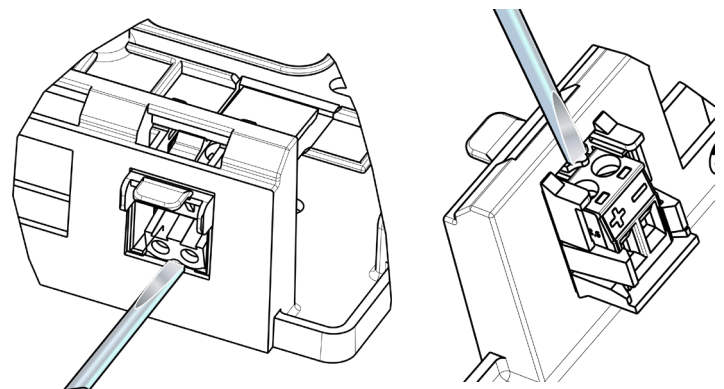

Figure 14
2. Place the tip of the small flat screwdriver on the top latch lever and press down to disengage; then remove the Holder from the port. See Figure 14